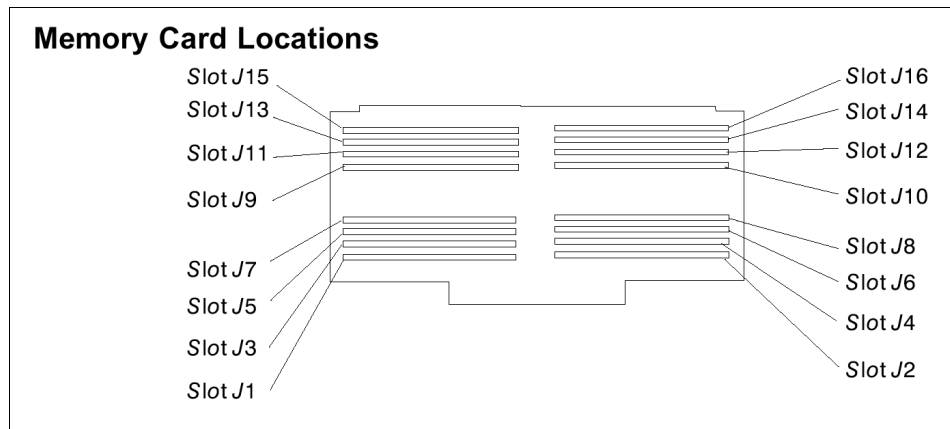

Figure 3-4 Memory card locations
- ▶ Memory DIMMs must be ordered and installed in pairs on the memory cards. They must be installed starting at the bottom of the card (card slot J1 and J2) and then moving up (Figure 3-4).
Figure 3-4 shows the memory card locations for p610 Model 6C1 and 6E1.